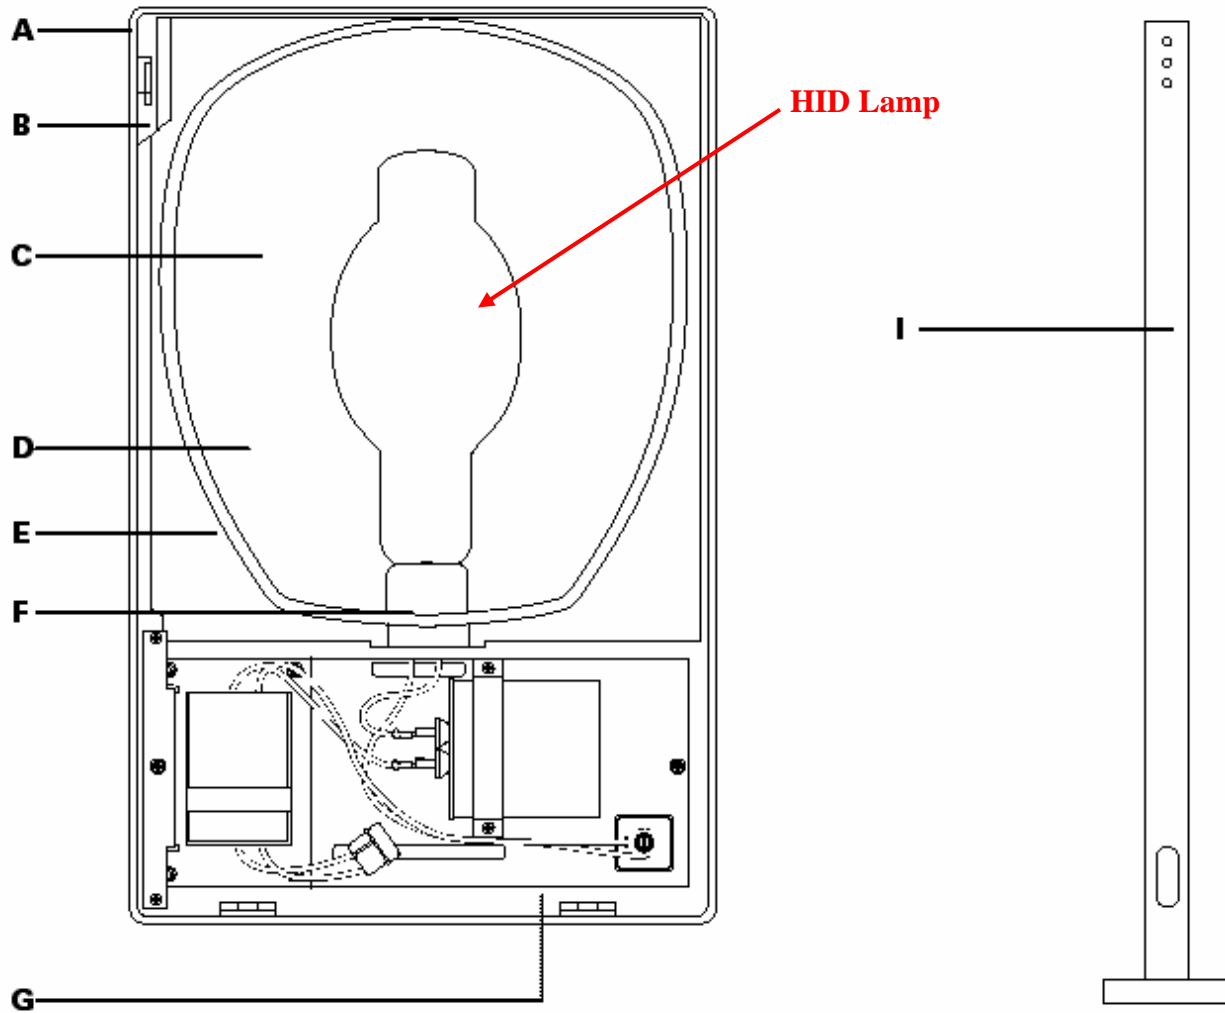

Figure 6 - Lumark Type PFH Pole-Type HID Fixture
- Figure 6 – Pole-Type HID Fixture Diagram
The parts of this HID fixture (**Figure 6**) are: